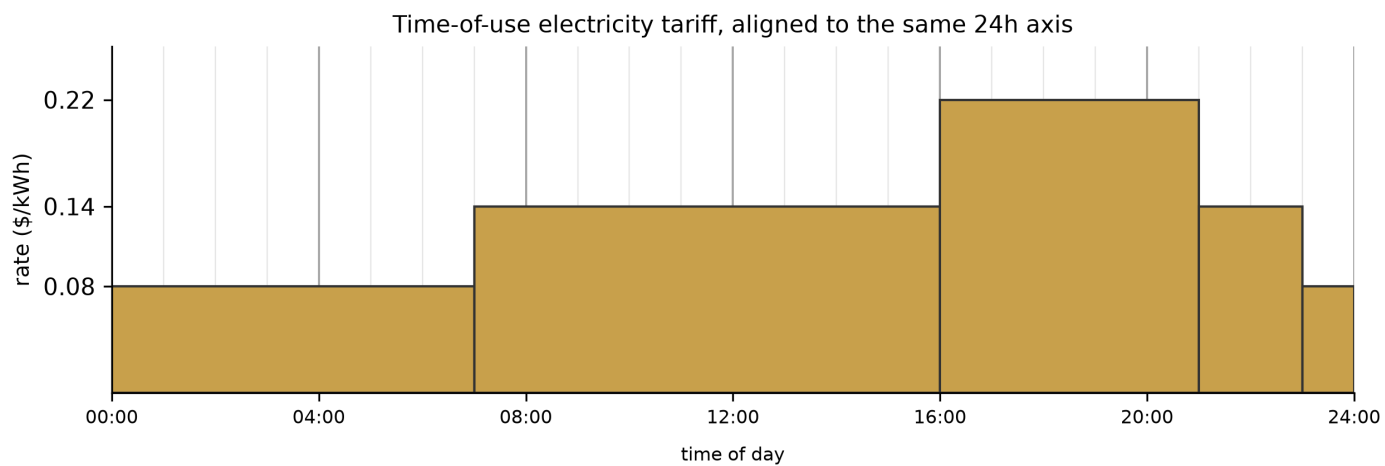

Figure 4 -- Time-of-use tariff, aligned to the same 24h axis as Figure 3.
6. ENERGY AND TARIFF (Figure 4)
Each running pump draws a constant 15 kW, independent of level. Each tick's energy cost is (running pump count) * 15 kW * (1/60 h) * the tariff rate whose band (Figure 4) contains that tick's own start minute. `total_energy_cost` is the sum over all 1440 ticks.